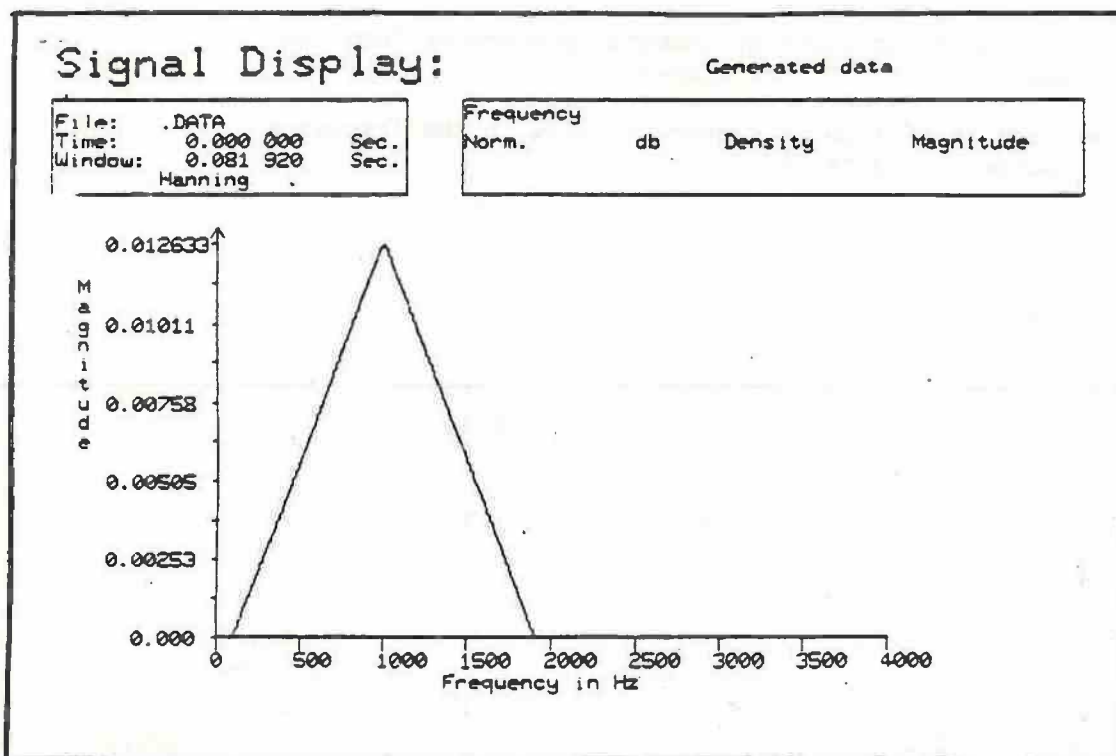

Figure 11.8
12. Move the cursor to the peak of the triangle (frequency of 1000) and press the PF2 key to scale the display as pictured below (Figure 11.8).